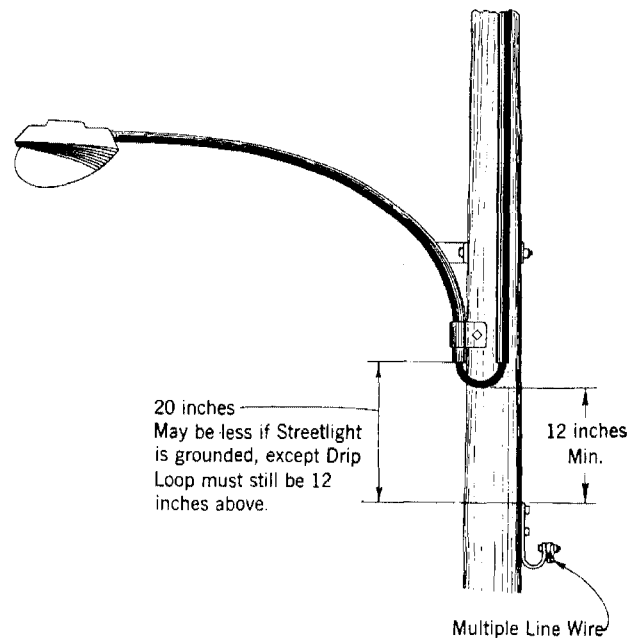

Fig. 2
2.02 Telephone cable or multiple line wire and terminals shall have at least 20 inches clearance from streetlight fixtures or span wires carrying streetlights which *are not grounded*, and at least 4 inches from fixtures and span wires which *are grounded*. (See Figs. 2, 3, 4, 6, and 7.)
2.04 Where streetlight fixtures are fed by means of drip loops entering the fixture from the surface of the pole, telephone cable or multiple line wire shall be at least 12 inches below the lowest part of the loop. (See Fig. 2.)